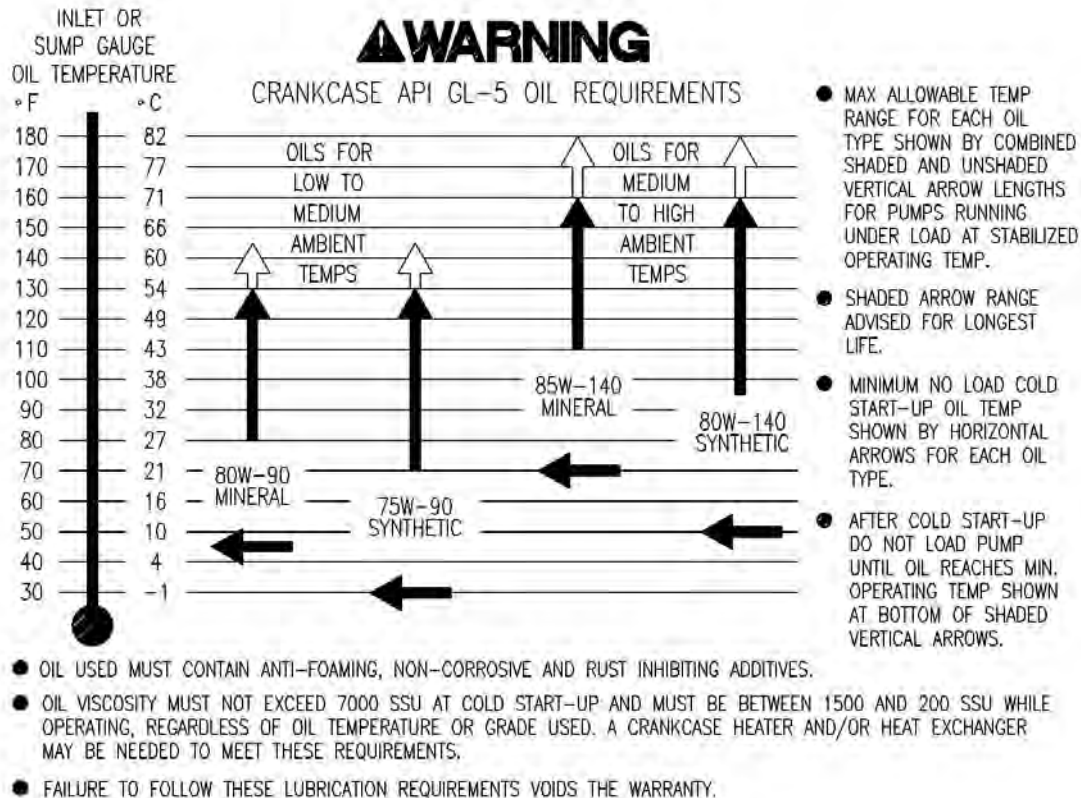

FIGURE 3-2 LUBRICANT RECOMMENDATIONS
FIGURE 3-2 Indicates API-GL5 oil grades recommended for use in the pump power end and the speed reducer lube system, crankcase operating temperature ranges, and minimum startup temperatures for each listed grade of oil for various ambient temperature ranges.
1. Fill the lube oil reservoir with the recommended grade of oil. See FIGURE 3-2 above for Lubricant Recommendations.
4. Start the engine at the lowest possible RPM and triplex pump at zero (0) pressure. Make sure that all roller bearings, crossheads, wrist pin joints, and crankshaft bearings have proper lubrication.